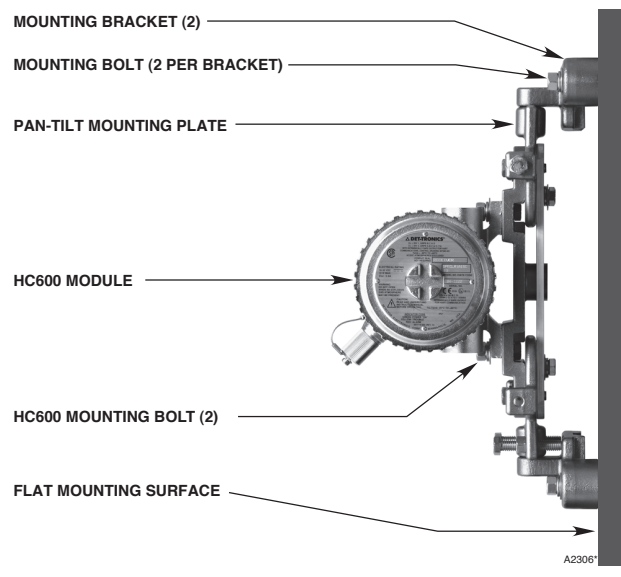

Figure 6—HC600 Gas Detector Mounted to Flat Surface
- For flat surface mounting, refer to Figure 6.